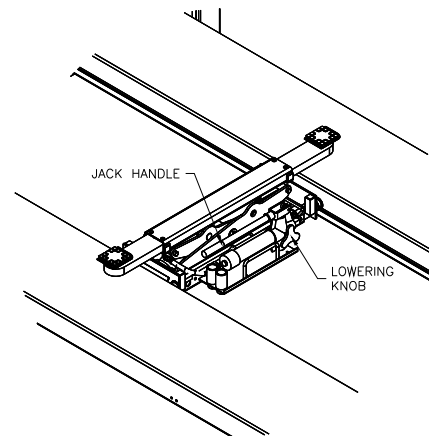

Fig 28 – Rolling Jack
- 2) Make sure the lowering valve is closed all the way by turning the knob clockwise, **Fig 28**.